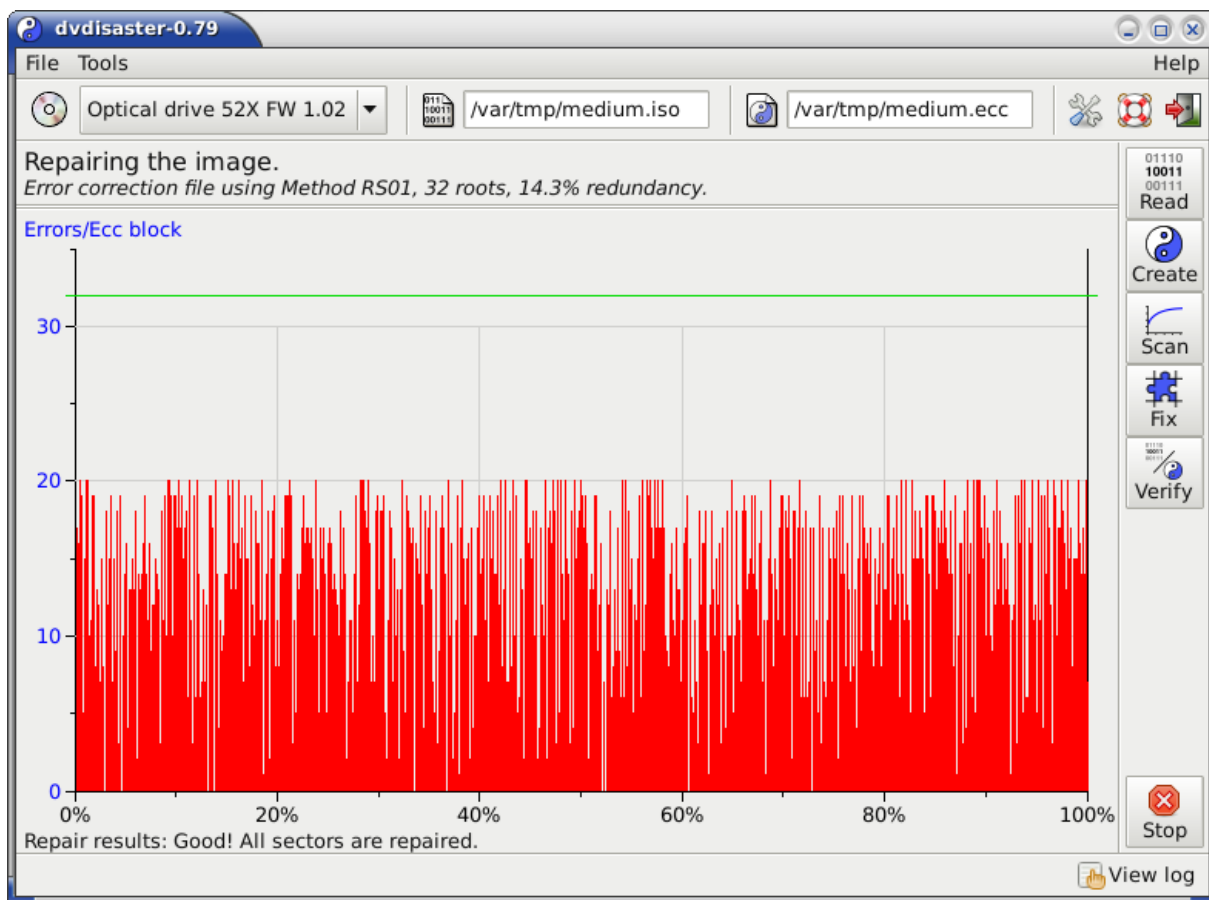

Figure 2: Repairing the defective image.
**Repairing the defective image.** The image which has been just read is incomplete since about 23.600 sectors could not be read. These sectors are now reconstructed using the error correction data created with dvd disaster. During the recovery a maximum of 20 errors per error correction block is encountered (see figure 2). This results in a peak error correction load of 63%, meaning that this degree of damage is handled well by error correction data created with default settings. The recovered image can now be written to a new medium.